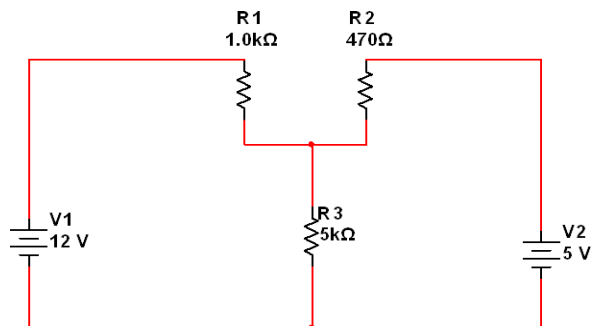

Fig. 3: Y circuit.
1. Using the DC circuit trainer, connect the circuit shown in Fig. 3.
3. Convert the Y circuit in Fig. 3 to delta connection theoretically.